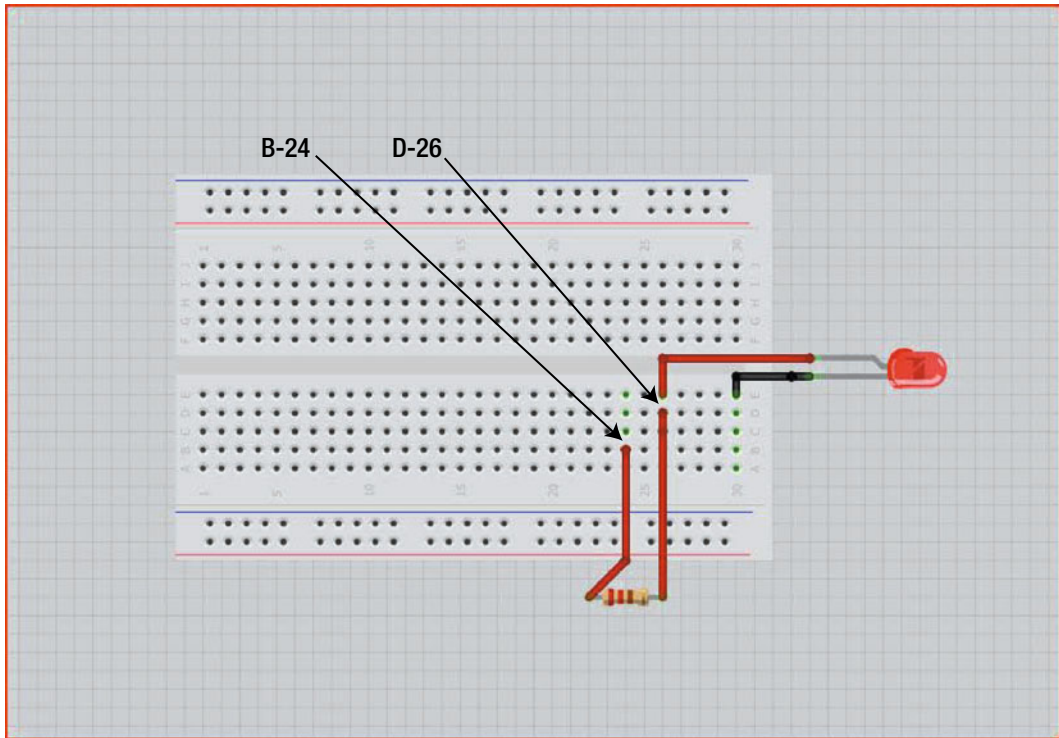

Figure 11-3. Attach the resistor to the positive lead on the LED
2. Next, attach the 150-ohm resistor to the positive lead of the LED, as illustrated in Figure 11-3. The 150-ohm resistor has a series of colored bands with the pattern brown-green-red. (You may also have either a gold or a silver band following the red one). Insert one of the resistor leads into Row 26, Column D (D-26) and the other into Row 24, Column B (B-24).